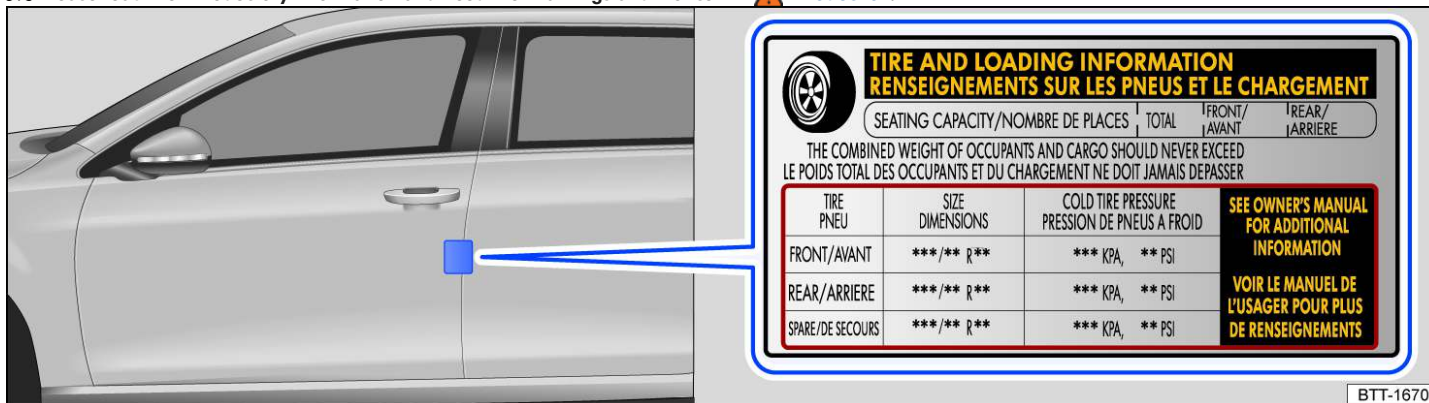

Fig. 162 On the driver door pillar: tire pressure sticker
The correct tire pressure for the tires fitted at the factory can be found on a label on the B-pillar of the driver door fig. 162. The factory-installed tires can be winter, summer or all-season tires.
- Always adjust the tire pressures to the vehicle load fig. 162.